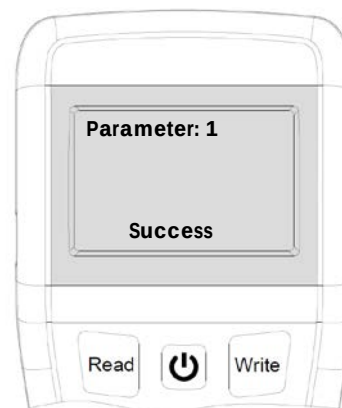

Figure 13
2. Input the “**1**” then press “**Write**” to change the setting (Figure 13) and LED will turn-off. To resume the default setting, press “**Clear**” and then press “**Write**”.